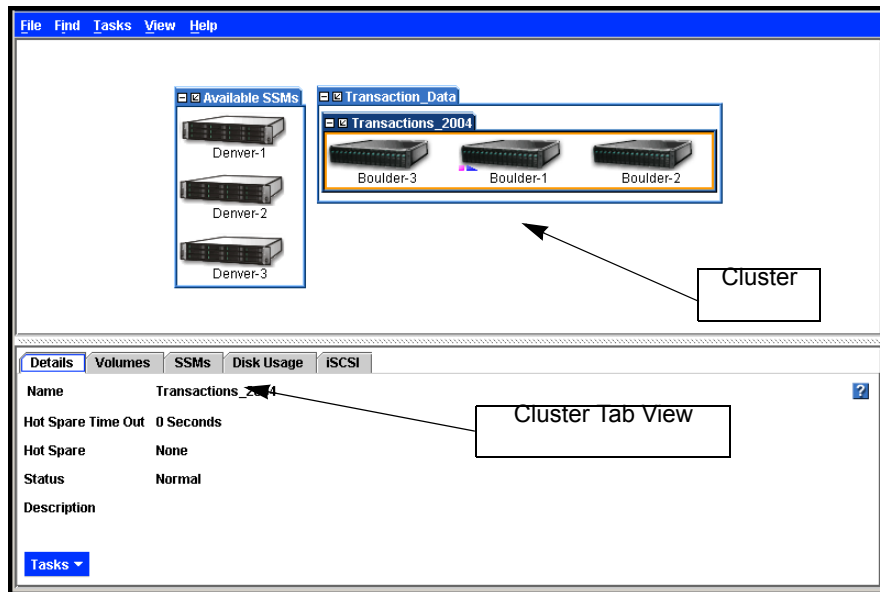

Figure 161. Viewing a Cluster and the Cluster Tab View
The cluster is created and displayed inside the management group, shown in Figure 161.
7. Select the cluster to open the clusters Tab View, also shown in Figure 161.
The Cluster Tab View is shown in Figure 161. The tabs provide access to cluster information and features along with a Tasks button for taking actions on features.